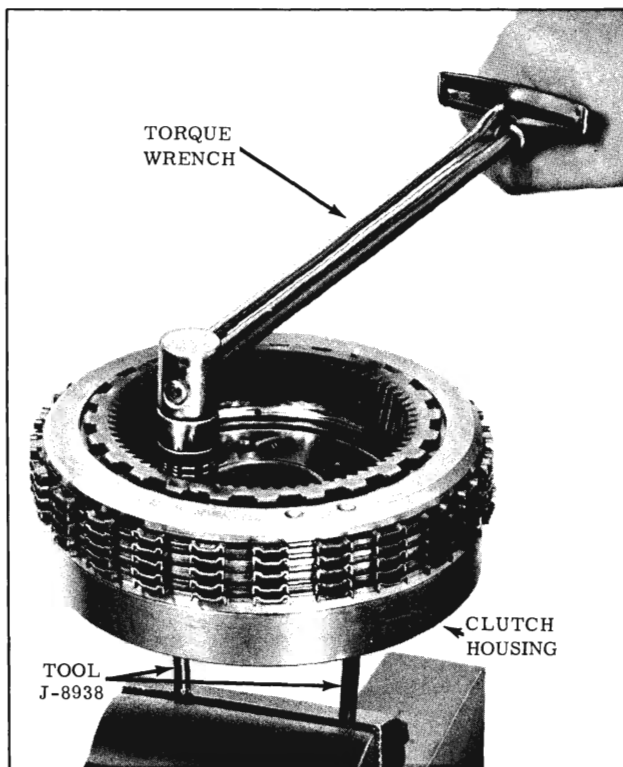

Fig. 3-262 Assembling Clutch Housing
9. Install Tool J-8938 (studs) in dowel pin holes in clutch housing assembly and secure in vise. (Fig. 3-262) Torque 22-27 ft. lbs.